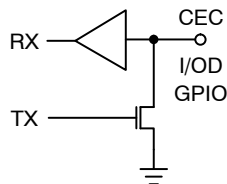

Figure 3. Typical μC I/OD Driver
The Consumer Electronics Control (CEC) line is a high level command and control protocol, based on a single wire multidrop open drain communication bus running at approximately 1 kHz (See Figure 3). While the HDMI link provides only a single point-to-point connection, up to ten (10) CEC devices may reside on the bus, and they may be daisy chained out through other physical connectors including other HDMI ports or other dedicated CEC links. The high level protocol of CEC can be implemented in a simple microcontroller or other interface with any I/OD (input/open-drain) GPIO.